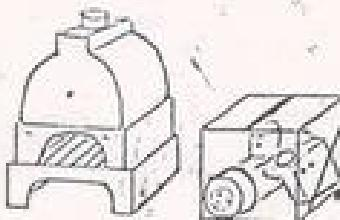

Fig.4.
- 5.4 Place the Generator set next to the boiler unit on the R.H. side of the stoke hole 4" away as per Fig. 4.